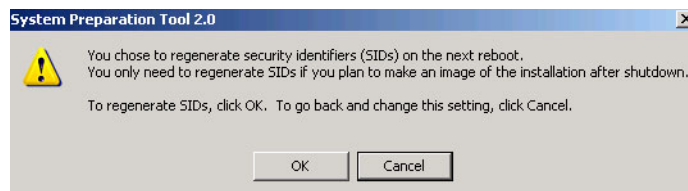

Figure 3-4 Warning for sysprep
5. Click **ok** on the warning dialog that appears and then after a short delay the machine will be shutdown and we are ready to capture the image as shown in Figure 3-4